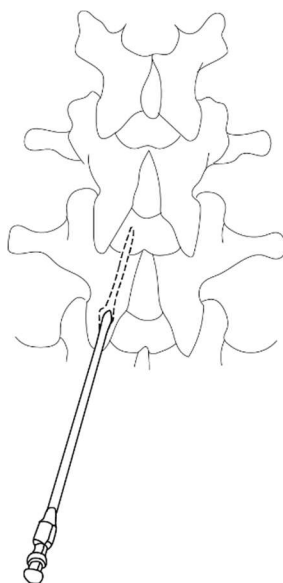
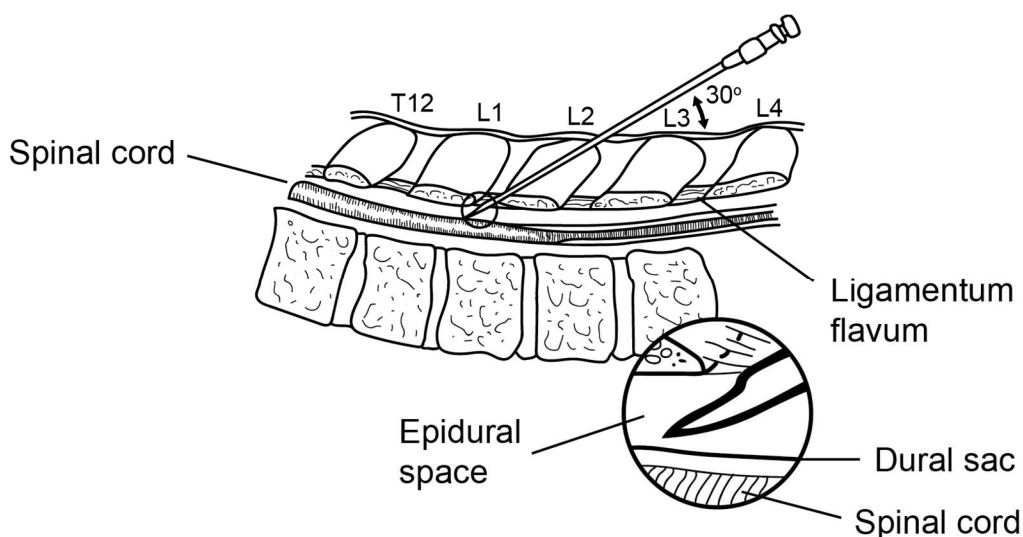

Figure 5.2: Inserting the needle with a paramedian approach.
Figure 5.3: Insert the needle at no greater than 45°.
2. Using an Epidural Needle from the surgical tools, insert the needle with the bevel up and a paramedian approach (refer to Figure 5.2) no greater than 45° angle to the skin into the epidural space (refer to Figure 5.3).